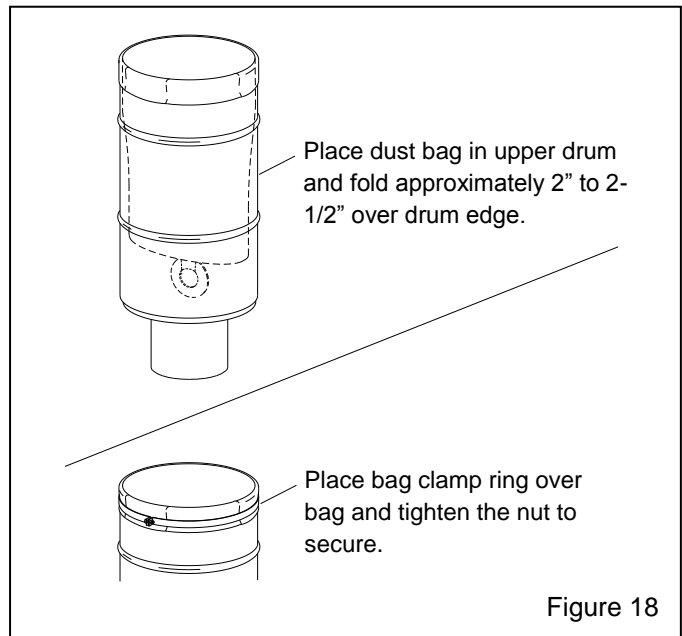

Figure 18
9.8.8 Insert a new filter bag (weighted on the outside) into the drum and fold approximately 2" to 2-1/2" of the open end of the filter over the drum edge, as shown in the upper illustration in Figure 18.